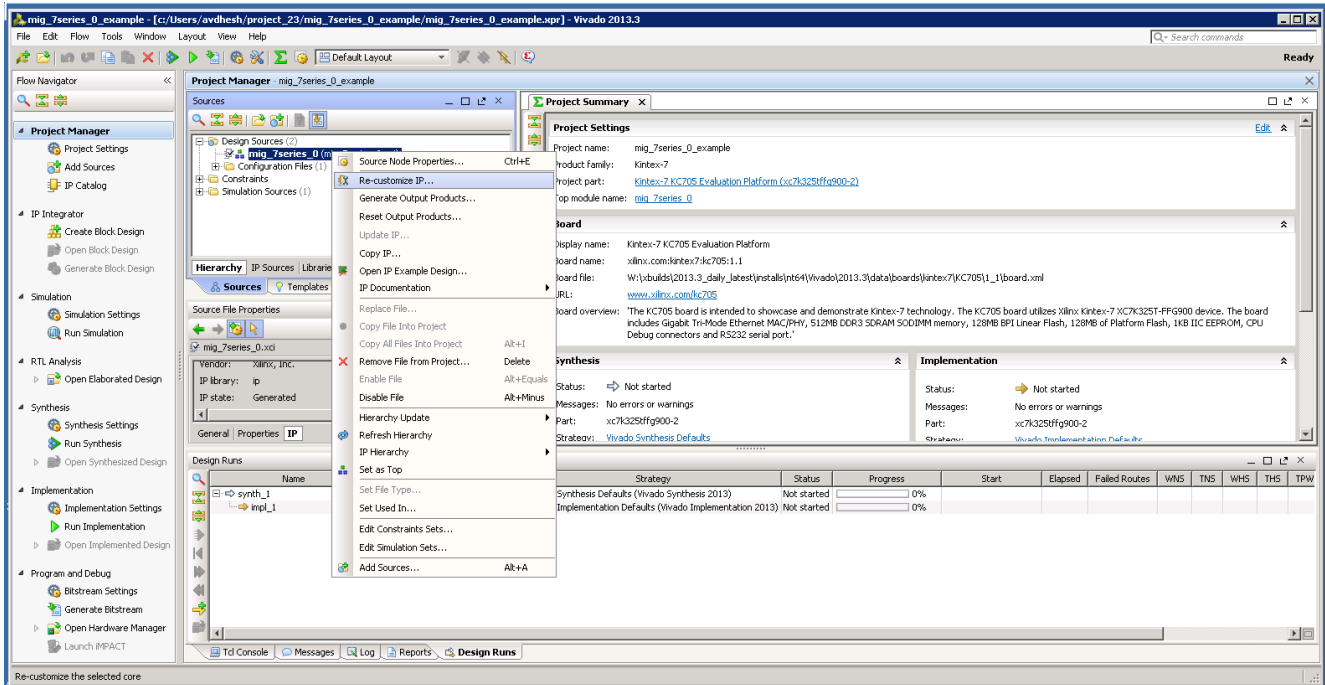

Figure 2-37: Recustomize IP
12. Recustomization of the MIG IP core can be done by using the **Recustomize IP** option. It is not recommended to recustomize the IP in the example\_design project. The correct solution is to close the example\_design project, go back to original project and customize there. Right-click the XCI file and click **Recustomize IP** (Figure 2-37) to open the MIG GUI and regenerate the design with the preferred options.